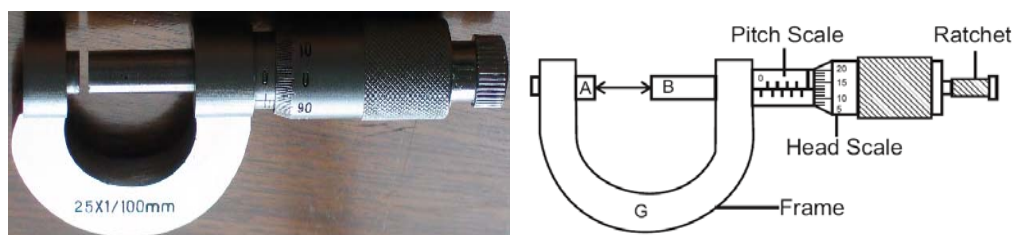

Fig.1
Theory - Screw Gauge- It is an instrument designed to have a least count .01 mm or even smaller. It is used to measure the thickness of very thin objects such as a thin sheet, a wire or a hair etc. It is based upon the principle of a screw. It consists of a U- shaped frame, which has a fixed end at A. A fine and an accurate cut screw of uniform pitch passes through the other end of the frame. A cap fits on to the screw and carries on its inner edge 100 or 50 equal division marks. This is called the circular/head scale (CS/HS). There is another linear scale graduated on the parallel to the axis of the screw. This is called main/pitch scale (S). When the screw is rotated, the number of complete rotations can be read on the pitch scale, while the fraction of rotation can be read from the circular scale. In some screw gauges, the screw head is provided with a ratchet arrangement R. (See Fig.1). When the studs A and B are in contact with each other or with some other object placed in between, the ratchet slips over the screw without moving the screw forward. This helps in avoiding undue pressure between the studs or on the object for accurate measurements.